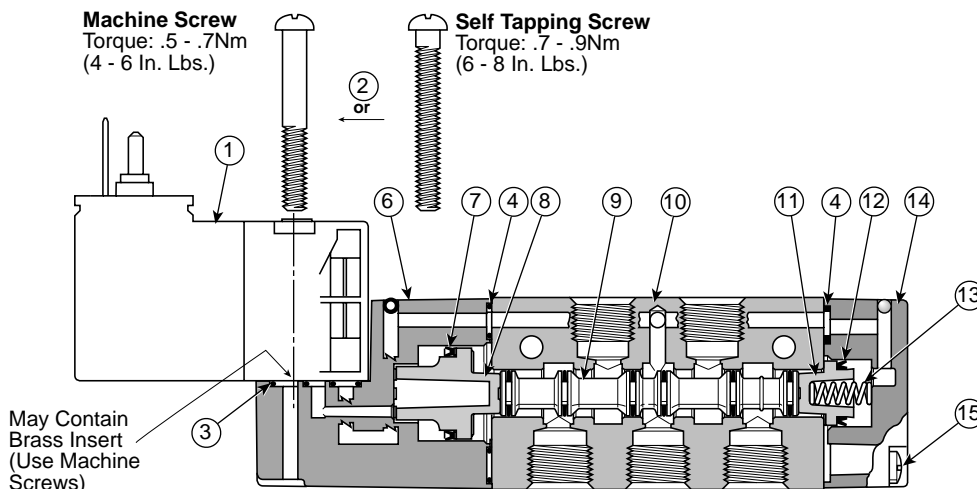

Figure 2: Single Solenoid Operated 4-Way Valve Illustrated (2-Position)
11. Reassemble the solenoid adapter, air operator, or return operator (to the same ends of the main body as before) using their two mounting screws - torque screws from 0.9 to 1.4 Nm (8 to 12 in-lbs). Install the solenoid interface seal (item 3) into its groove on the adapter and attach the solenoid assembly to the adapter using the two mounting screws; (see Figure 2 for torque values).
1. After electrically de-energizing unit and relieving air pressure, remove the electrical connector. Remove snap-on type connector by squeezing the latches on the sides to disengage the latch tangs, then pull it off the solenoid (Item 1). If the snap-on connector is also held in place with a holding screw, this screw must be removed before the connector can be removed (see Figure 1). A cable plug requires unscrewing its holding screw from the center of the plug, then pulling it off of the solenoid (see Figure 2).
To install a cable plug, place the seal (Item 4) over the solenoid terminal before attaching the cable plug to the solenoid. Secure plug in place by inserting the holding screw through the plug's center hole, and then fastening it into the solenoid (Figure 2).